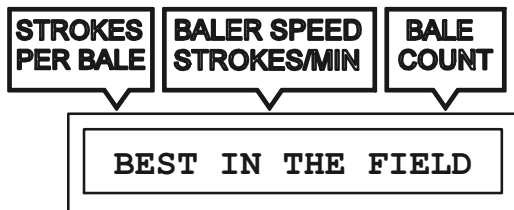

Figure 6 - Startup Screen
6. **RESET** button resets the bale count on the baling screen (see Figure 6 page 4).